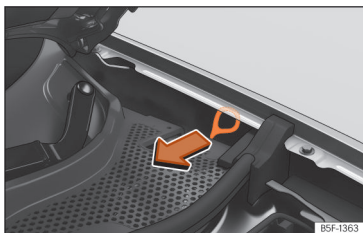

Fig. 64 Between the left wing panel and the engine bonnet hinge: Charging connector manual release mechanism puller.
The puller for the manual release mechanism is on the left hand side of the engine compartment, above the charging socket »» Fig. 64.
- Pull the puller »» Fig. 64.